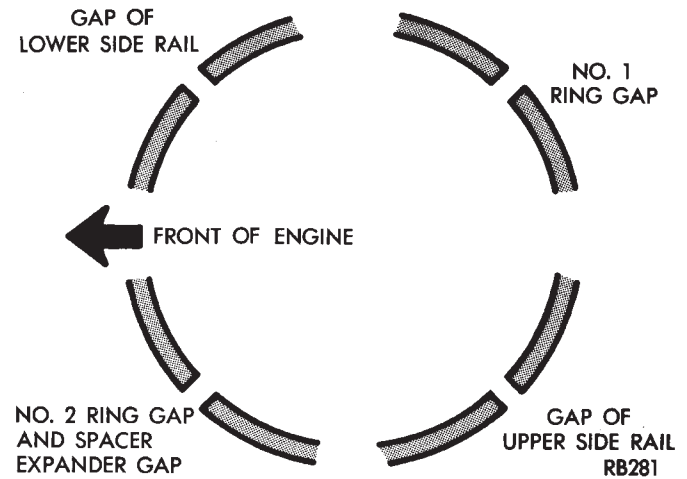

Fig. 65 Piston Ring End Gap Position
(5) Position piston ring end gaps as shown in (Fig. 65).
(6) Position oil ring expander gap at least 45° from the side rail gaps but **not** on the piston pin center or on the thrust direction. Staggering ring gap is important for oil control.
(1) Before installing pistons and connecting rod assemblies into the bore, make sure that compression ring gaps are staggered, and not in line with oil ring rail gap.
(2) Before installing the ring compressor, make sure the oil ring expander ends are butted and the rail gaps located as shown in (Fig. 65).